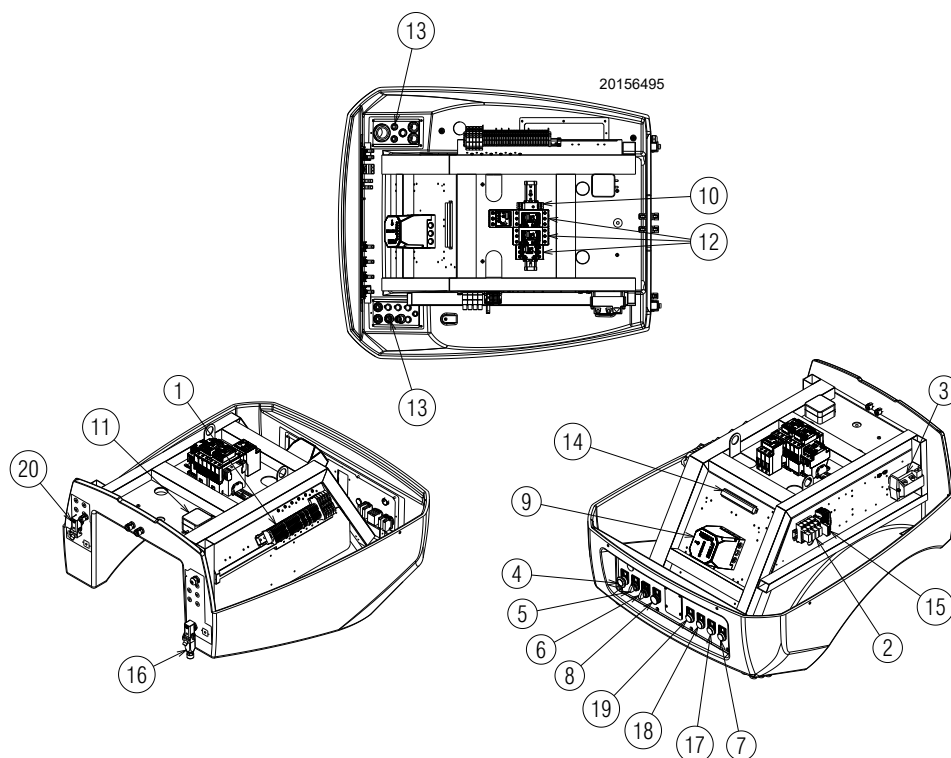

Fig. 5
- **Control box lockout:** if the pushbutton (**red led**) of the control box 9)(Fig. 5) and the pushbutton with light 8) light up, this indicates that the burner is in lockout. Release by pressing the pushbutton 8).